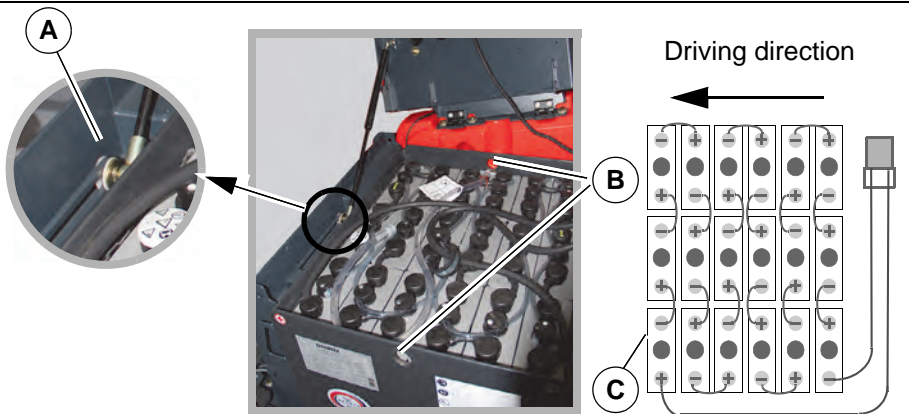

Fig. 26:
3. Open the seat console all the way **Fig. 26-A**.
5. Attach crane gear to eyelets of the battery trough **Fig. 26-B**.
Please ensure that the trough battery is in the correct installation position! See connecting diagram **Fig. 26-C**.